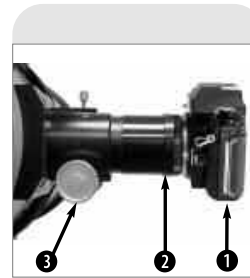

Fig. 22a: LX75-Series T-Adapter attached to focuser assembly and camera. (1) Camera Body, (2) T-Adapter, (3) Focus Knob.
Photography through an LX75 Series Schmidt-Newtonian and Newtonian Reflector telescope requires an LX75-Series T-Adapter (supplied) attached to the telescope (Fig. 22a). Through-the-telescope photography is possible with any 35mm camera body with a removable lens. In this way, the telescope effectively becomes the lens of the camera.
Unthread the focuser extension tube (Fig. 22b) from the focuser drawtube to remove from the focuser assembly. The T-Adapter (2, Fig. 22a) threads onto the focuser, followed by the camera body (1, Fig. 22a).
2. Focus the image with extreme care. While observing the subject through the camera's reflex viewfinder, turn the telescope's focus knob (3, Fig. 22a) to achieve the sharpest possible focus. Note that some 35mm cameras may have an optional focusing screen (available from the manufacturer) for use with a long telephoto lens. This screen provides a brighter and clearer image to focus, and is highly recommended.